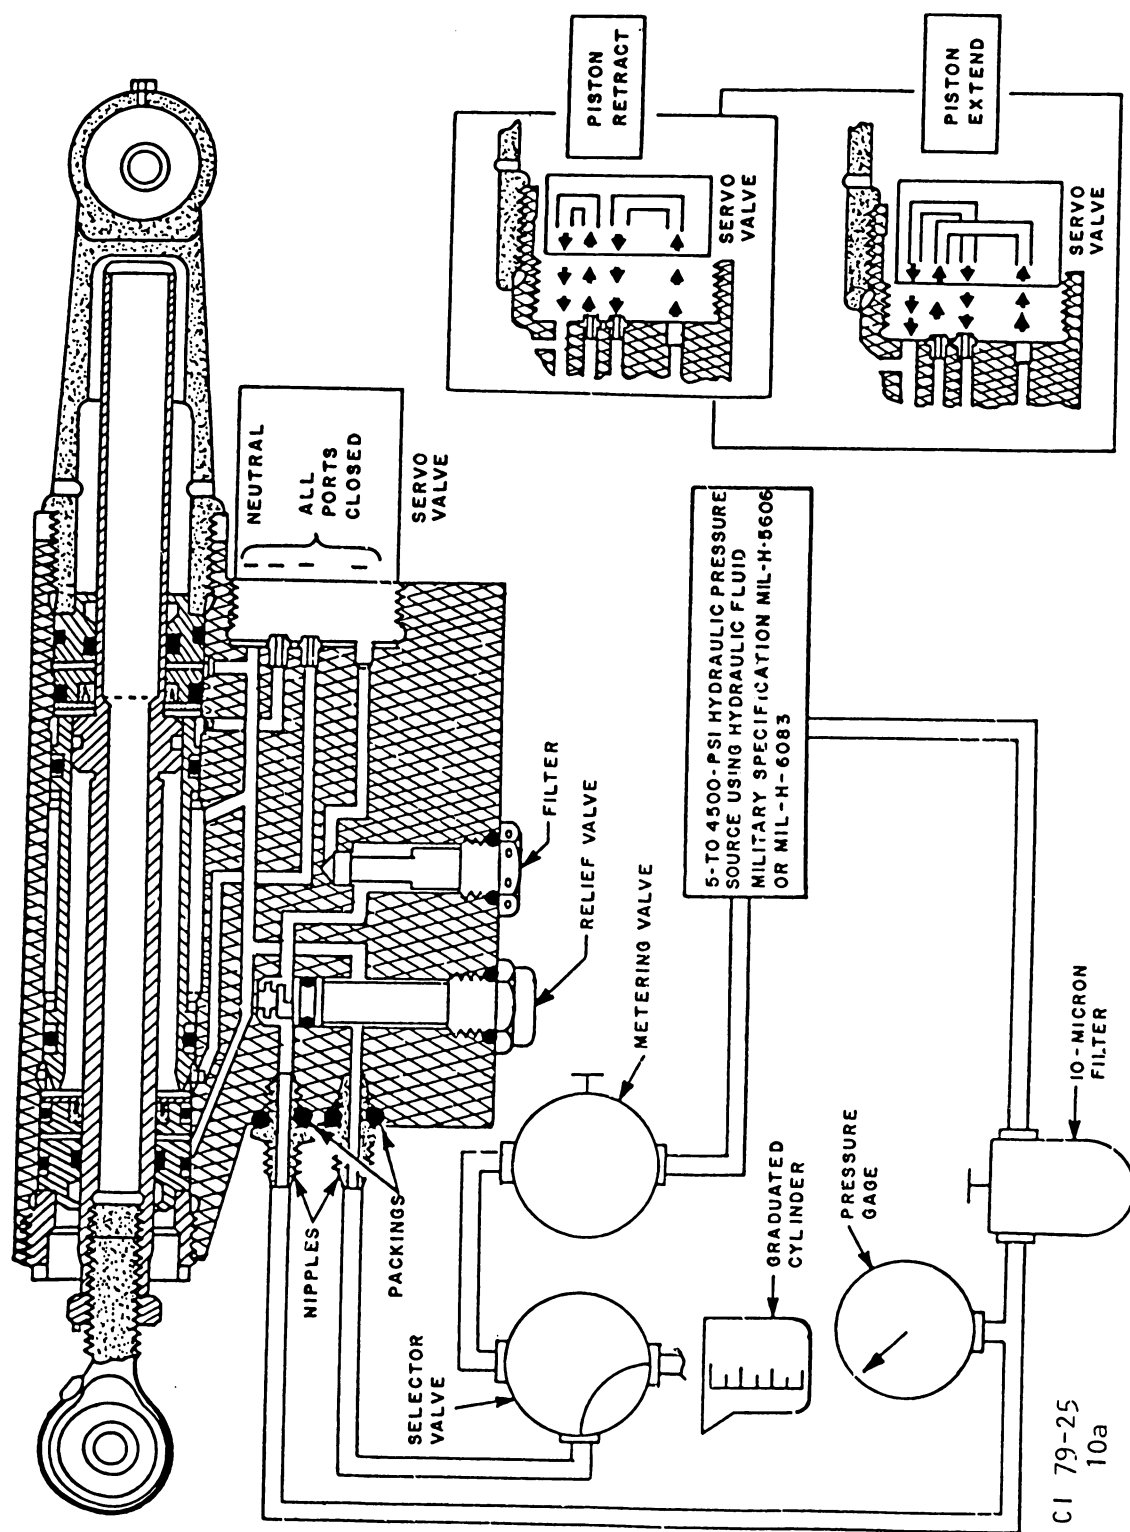
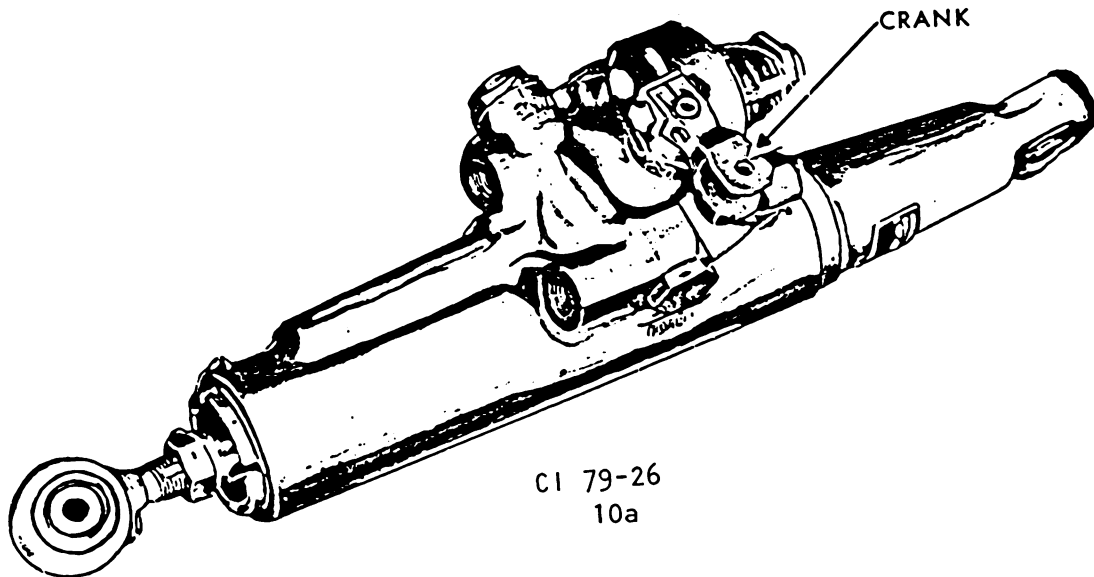
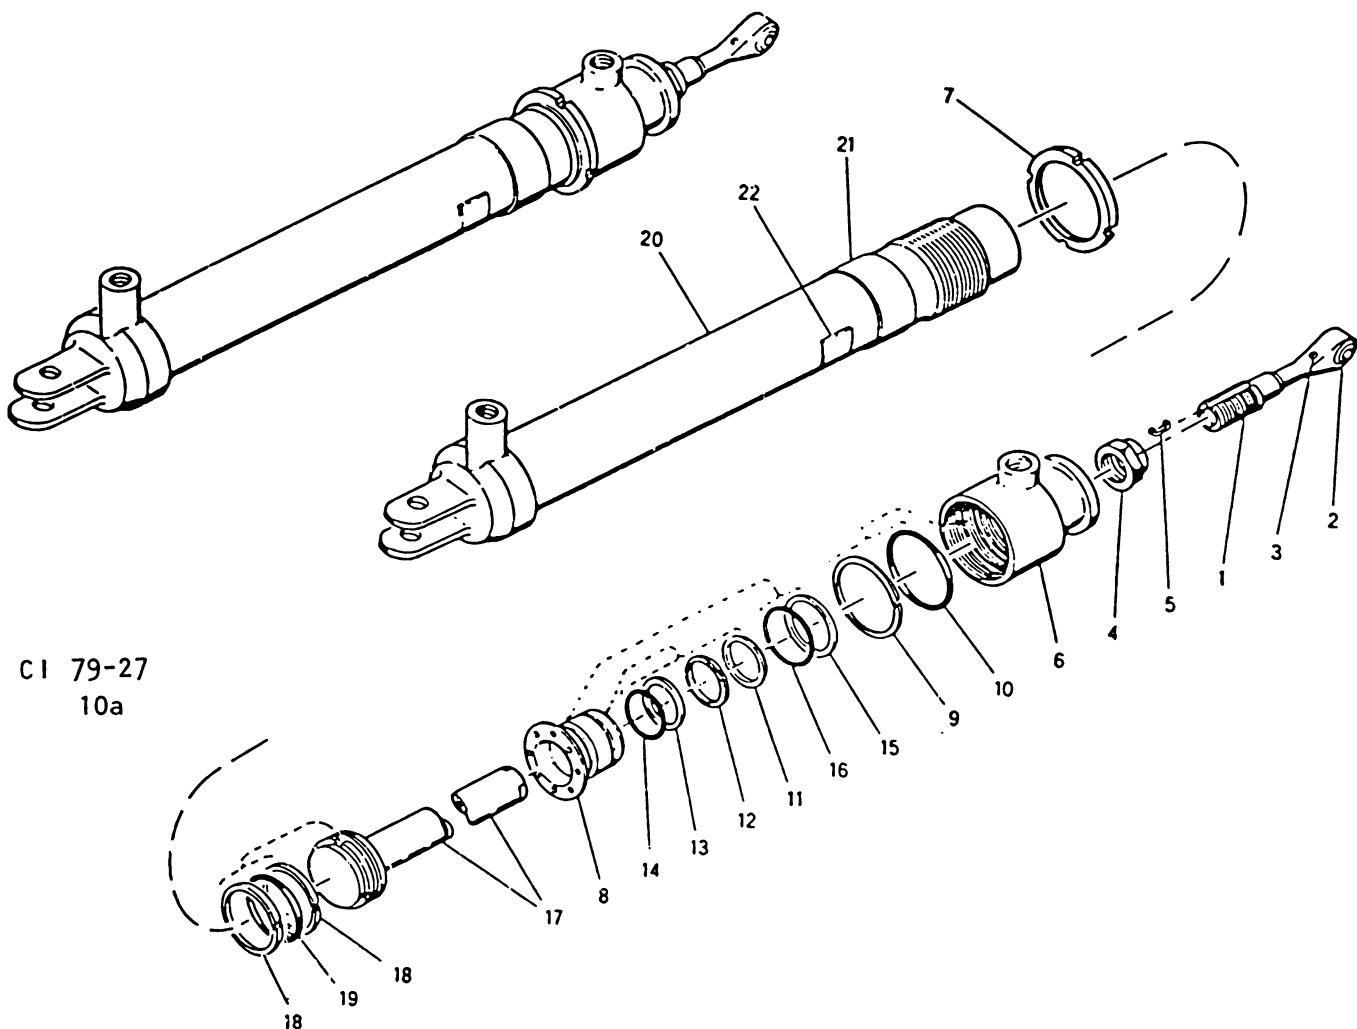

Figure 4-20. Servo control cylinder test set-up.
Figure 4-21. Servo control cylinder.
Figure 4-22. Speed brake actuator (breakdown).
Power Control Cylinder Testing. The following instructions should enable you to determine whether the hydraulic power control cylinder is operating within acceptable standards. Equipment required for testing the power control cylinder includes a pressure gage capable of indicating hydraulic pressures from 0 to 4500 psi, a selector valve for leakage measurement, a metering valve to control flow, and a hydraulic test stand. Set up the test equipment for checking the power control cylinder as shown in figure 4-20. Bleed all air from the servo cylinder by applying 5 psi on the pressure port and operating the crank (fig. 4-21) back and forth. Then operate the crank to one extreme position and hold for a minimum of 2 minutes. Reduce pressure to 0; operate the crank several times, and repeat the operation with crank held in the opposite extreme position. There must be no evidence of external leakage. Using the metering valve in the return line (fig. 4-20), reduce the flow until 4500 psi is indicated on the pressure gage. Operate the crank to one extreme position and hold for a minimum of 2 minutes. Reduce the pressure to 0, operate the crank several times, and repeat the operation with the crank held in the opposite extreme position. There must be no evidence of external leakage, permanent deformation, or rupture of parts.
Bench Check and Repair of Simple Actuator. To bench check and repair the actuator, shown in figure 4-20, requires no special tools or test equipment that could not be found in any pneumatic shop. Disassemble the actuator in the same order as the key index numbers assigned to the exploded view in figure 4-22, with these exceptions: Do not remove the bearing (2) or grease fitting (3) from rod end (1) unless they are damaged and require replacement. After the
retainers (9, 13, 15, and 18), scraper (11), and felt wiper (12) in their respective grooves, as shown by the dotted lines in figure 4-22. With packings and retainers installed in the bearing (8), insert the bearing into the end cap (6). Install piston (17) in barrel (20) using care not to cut or damage the packing and retainers. Thread nut (7) on to barrel (20) and screw end cap (6) onto barrel until it bottoms. Then back off the barrel a maximum of one turn to align the fluid ports of the actuator. If the bearing (2) was removed from rod end (1) during disassembly, then it will have to be reinstalled. To prevent it from coming out, it should be staked lightly in four places on each side. Now screw the rod end (1) with lock nut (4) and lock (5) into the piston rod (17). Cycle the cylinder assembly by hand to assure free travel of the piston. Now check the stroke of the piston as well as the retracted and extended length of the actuator. This measurement is made from the centerline of the rod end bearing (2) and the cylinder bearing (20) mounting holes. If the length is incorrect, then thread the rod end (1) in or out of piston (17) to establish the correct length. If the stroke is incorrect, then the barrel will have to be screwed in or out of the end cap (6) until the desired stroke is reached. (NOTE: Do not exceed the maximum of 1 turn, discussed earlier.) With the actuator adjusted correctly, tighten the lock nut (4) and safety wire to lock (5). Also tighten the nut (7) and safety wire to end cap (6). If the paint was removed to perform the nondestructive inspection, then it will have to be repainted. Before doing